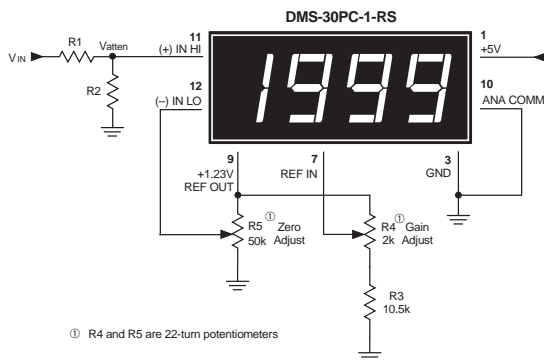

Figure 2. Schematic Diagram
Step 4. Find the null voltage that must be applied to pin 12 (-) INPUT LO, see Figure 2):
When V_{IN} is 1V, $V_{atten(min)}$ will be 0.08V. It must be nulled by also placing 0.080V on pin 12 (-) INPUT LO) in order to achieve a display reading of "000". The circuit shown in Figure 2 uses a precision 22-turn potentiometer (R5) to generate 0.08V of zero offset.